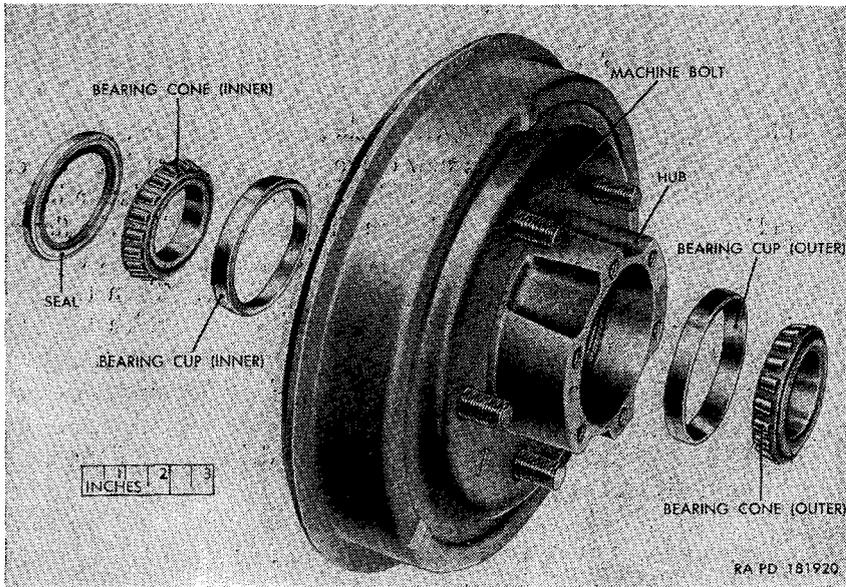
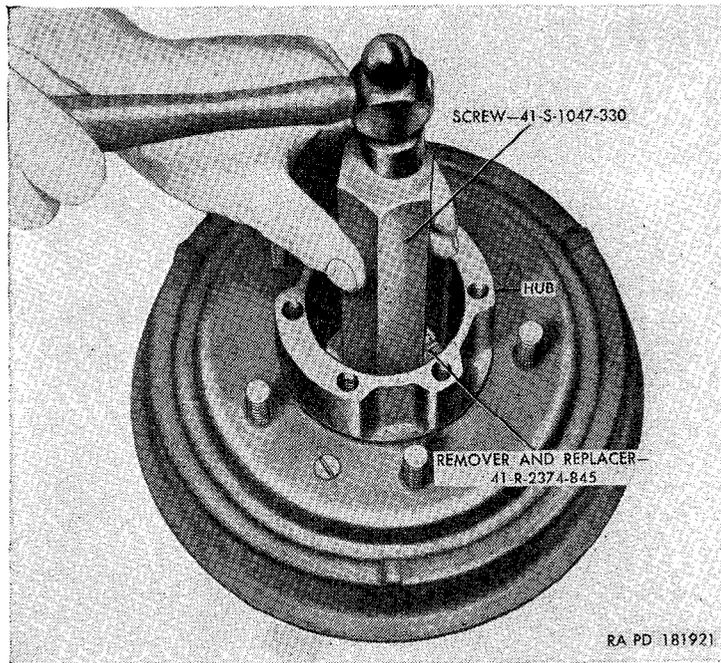

Figure 137. Front hub and drum, inner and outer bearing, and oil seal assemblies—exploded view.
Figure 138. Removing front hub bearing cup, using remover and replacer 41-R-2374-845 and screw 41-S-1047-330.
- (1) Follow the procedure described in paragraph 207a(1) through (7).
- (2) Using a brass drift, tap the hub (inner) bearing cone and hub bearing oil seal (fig. 137) out of the hub. Discard oil seal.
- (3) Install the remover and replacer 41-R-2374-845 and screw 41-S-1047-330 (fig. 138) in the hub bearing cup (inner) (fig. 137) and drive the cup out of the hub. Reverse the hub and, with the remover and replacer 41-R-2374-845 and screw 41-S-1047-330, drive the hub bearing cup (outer) from the hub.
- (1) Insert the small inside diameter end of the hub bearing cup (outer) (fig. 137) into the brake drum side of the hub. Place the remover and replacer 41-R-2374-845 and screw 41-S-1047-330 (fig. 138) in the hub and drive cup into position.
- (2) Insert the small inside diameter end of the hub bearing cup (inner) (fig. 137) into the brake assembly side of the hub. Place the remover and replacer 41-R-2374-845 and screw
41-S-1047-330 (fig. 138) in the hub and drive cup into position.
- (3) With the small end of the bearing cone taper toward the brake drum, insert the hub bearing cone (inner) (fig. 137) into the hub.
- (4) Place a new hub bearing oil seal in the brake assembly side of the hub, with the lip of the seal facing the cone. With a soft mallet, tap on the seal until it is flush with the hub.